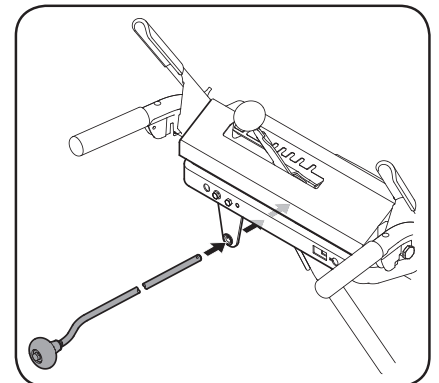

Figure 2-20
4. Insert chute control rod into the support bracket on rear of the dash panel. See Figure 2-20.